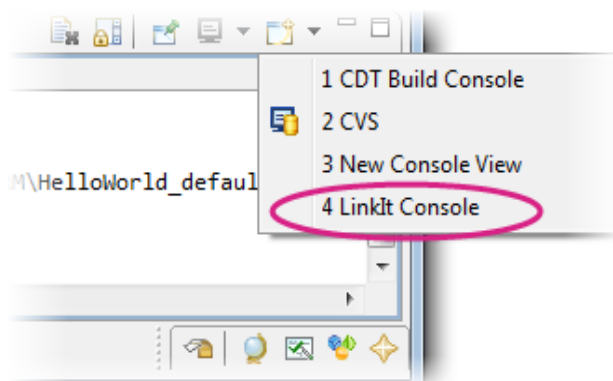

Figure 23 LinkIt Console in Eclipse
- 2) The Eclipse IDE will build and upload the application. After it's finished, the results are displayed in the console pane. To see the build and upload log, change the console view to **LinkIt Console**, as shown in Figure 23.